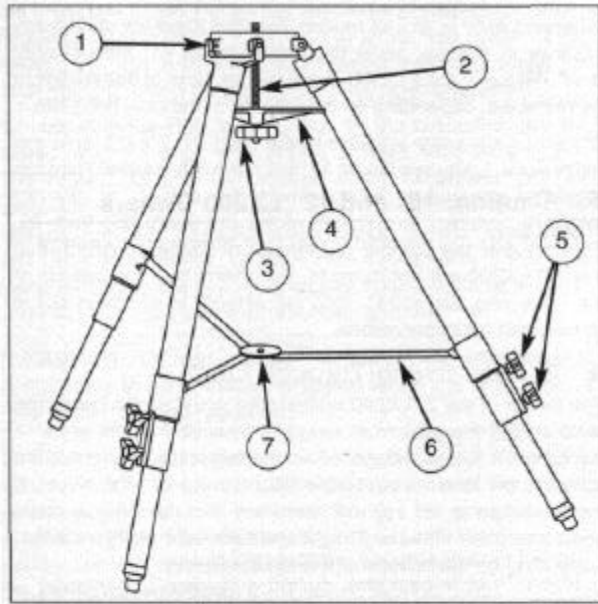
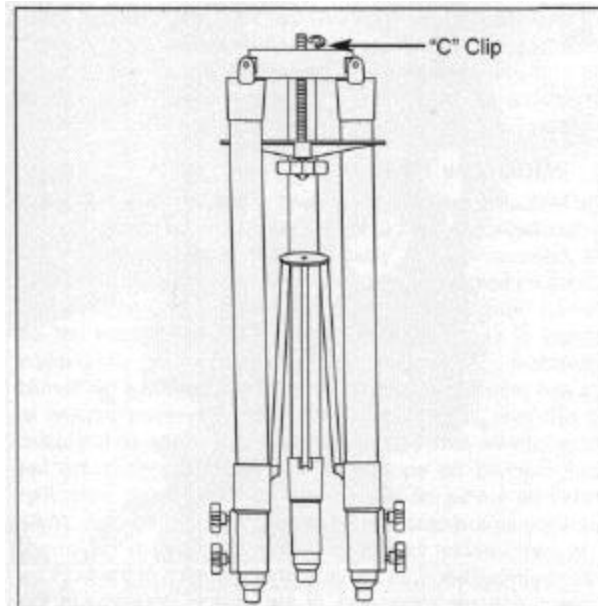

Fig. 2: LX200 Field Tripod. (1) Tripod Head; (2) Threaded Rod; (3) Tension Knob; (4) Spreader Bar; (5) Lock Knobs; (6) Extension Strut; (7) Tension Hub.
Fig. 3: Field Tripod (collapsed).
The field tripods (Figs. 2 and 3) for Meade 8", 10", and 12" LX200 telescopes are supplied as completely assembled units, except for the spreader bar (4, Fig. 2) and the 6 lock knobs (2 knobs for each of the 3 tripod legs) used to adjust the height of the tripod. These knobs are packed separately for safety in shipment.
After removing the field tripod from its shipping carton, stand the tripod vertically, with the tripod feet down and with the tripod still fully collapsed (see Fig. 3). Grasp two of the tripod legs and, with the full weight of the tripod on the third leg, gently pull the legs apart to a fully open position.
Thread in the 6 lock-knobs (2 on each tripod leg) near the foot of each tripod leg (Fig. 2). These lock-knobs are used to fix the height of the inner, extendible tripod leg sections.
The spreader bar (4, Fig. 2) has been removed for shipment. To replace, first remove the threaded rod (2, Fig. 2) from the tripod head (1, Fig. 2); a small piece of plastic holds the threaded rod in place. Remove the small plastic bag that is stapled to the threaded rod. This bag contains the "C" clip retainer (used below) and an extra clip.
Slide the spreader bar onto the threaded rod (note the correct orientation as shown in Fig. 2) and position the threaded rod back through the tripod head. Place the clip retainer (a "C" clip) into the slot in the threaded rod. This clip holds the threaded rod in place. See Fig. 3.
Place the entire telescope onto the top of the tripod head, and thread the threaded rod into the central threaded hole in the bottom of the drive base of the telescope. Tighten the tension knob (3, Fig. 2); firm tightening of the tension knob is sufficient to result in rigid positioning of the tripod legs.
- At the base of the tripod is a 3-vane extension strut system, with a circular hub at its center (7, Fig. 2). Grasp the tripod head (1, Fig. 2) with one hand and, with the other hand, pull directly "up" on the central hub of the extension strut system. This operation will cause the tripod legs to move inward to a collapsed position.
- Be sure the spreader bar (4, Fig. 2) is not upside-down on the threaded rod.